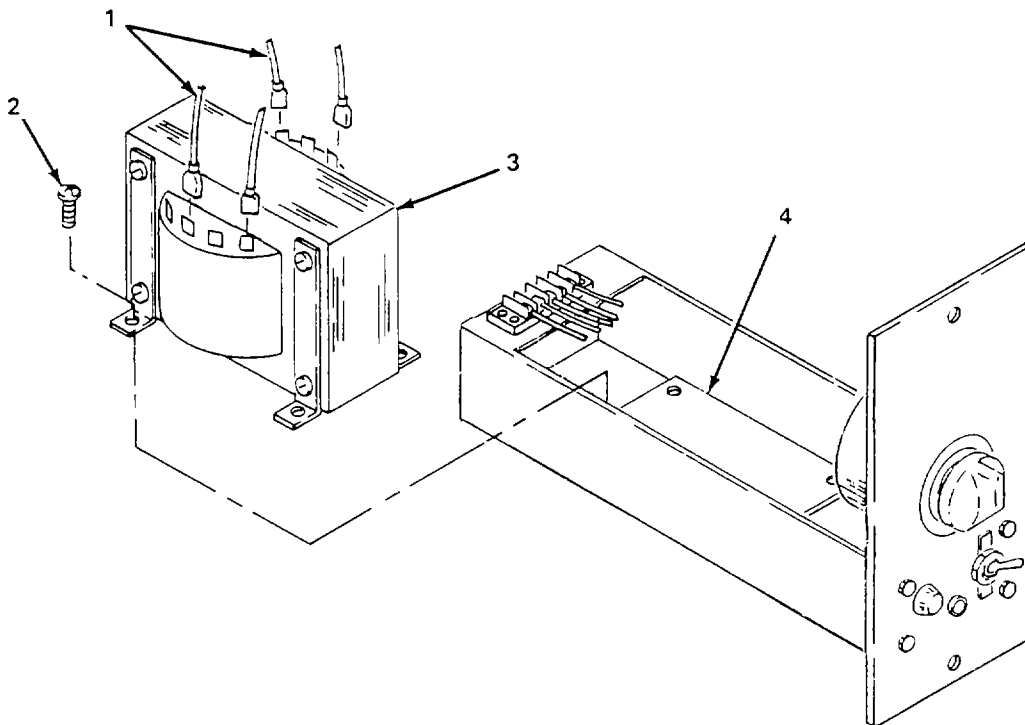

Figure 5-25. Single Light Power Supply (Outer Lock) Variac Unit, Replace.
(3) *Replace variac unit.* (figure 5-25)
- (a) Tag and disconnect electrical leads (1).
- (b) Remove knob (2) from variac unit (3).
- (c) Remove nut (4) and remove variac unit (3).
- (d) Install variac unit (3) on cover (5) and secure with nut (4).
- (e) Install knob (2) and connect electrical leads (1).